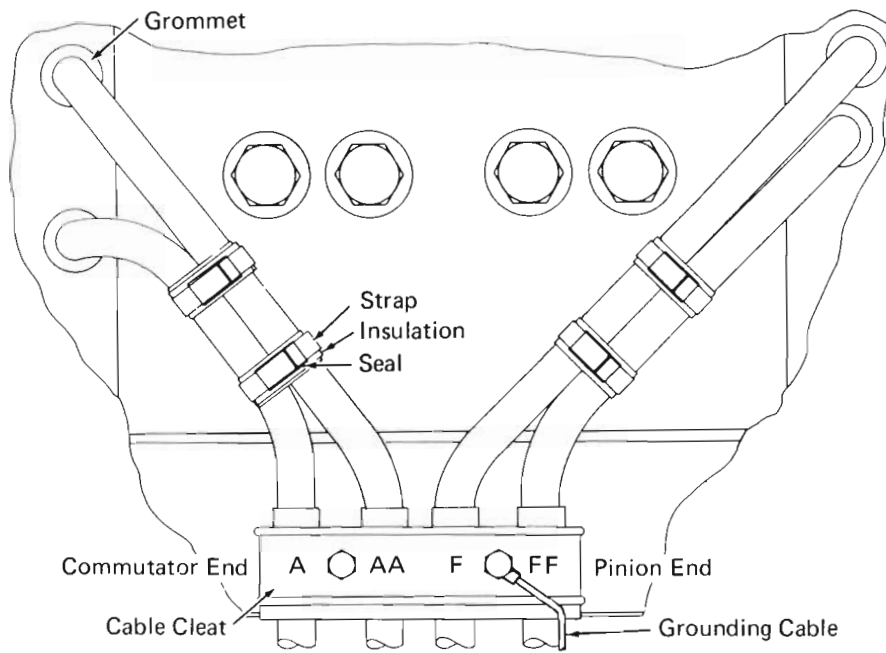

Fig. 27 - Exterior Cable Lead Arrangement
2. Fasten motor leads together in pairs with insulation strips and steel straps on outside of frame, two ties per pair of leads, 76 to 89 mm (3 to 3-1/2") apart, approximately half way between grommets and cable cleat as shown in Fig. 27. Tighten and cut steel strap with a steel binder set. Lock strap with the strap seal and remove steel binder set.